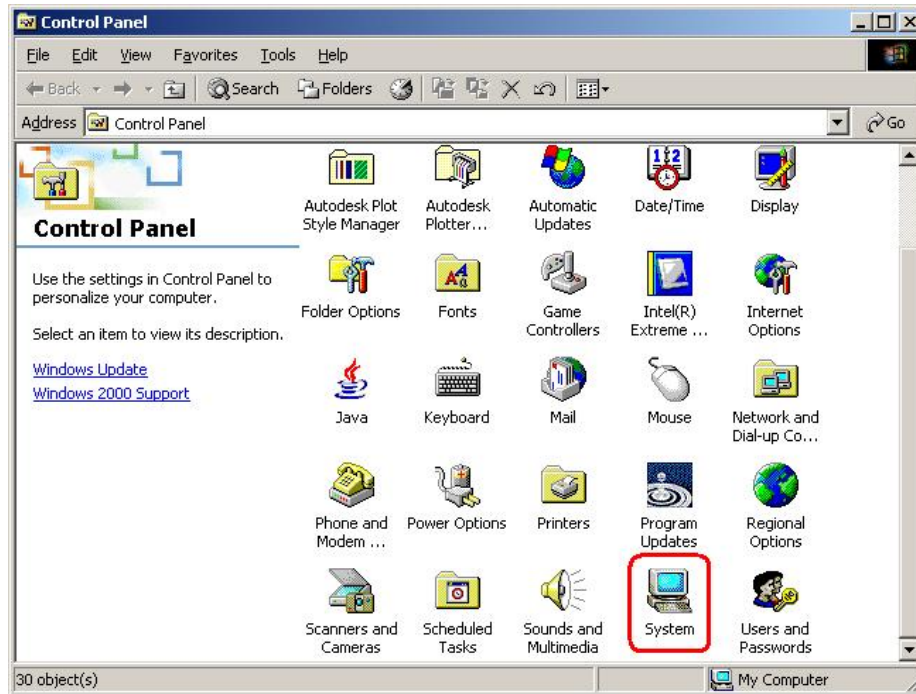

Figure 7-19: Double Click the System Icon
Step 2: Double click the **System** icon (Figure 7-19).